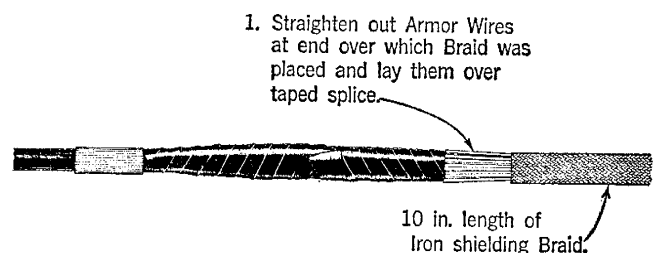

Fig. 13
5.02 Apply the splice covering as shown in Fig. 13 through Fig. 16.